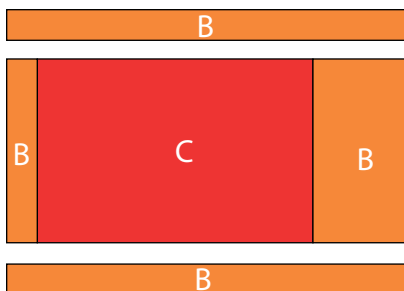

Fig. 1
1. Sew (1) 1 1/2" x 6 1/2" Fabric B strip to the left side of (1) 9 1/2" x 6 1/2" Fabric C strip. Sew (1) 3 1/2" x 6 1/2" Fabric B strip to the right side of the Fabric C strip. Sew (1) 1 1/2" x 13 1/2" Fabric B strip to the top and to the bottom of the Fabric C strip to make (1) C-Block (Fig. 1).